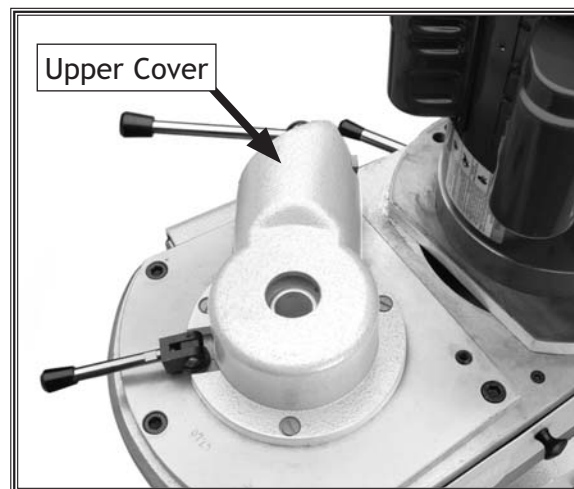

Figure 59. Upper cover.
2. Remove the drawbar and upper cover (**Figure 59**).